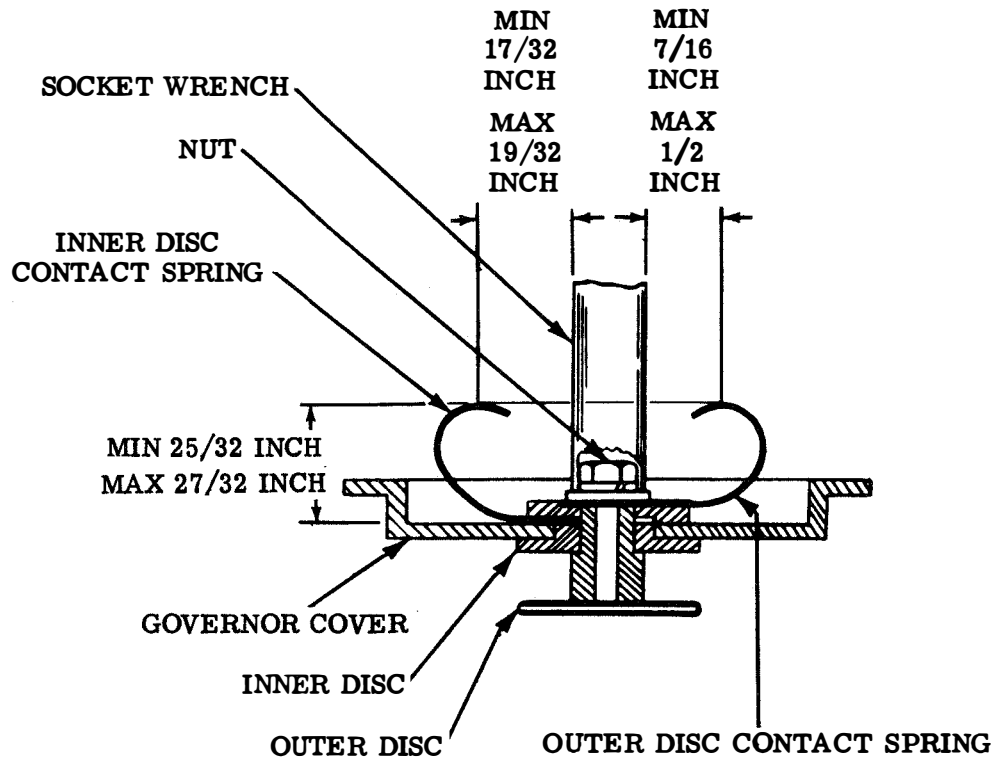

Figure 8 - Governor Cover Contact Spring Disc Assembly
To Adjust: Bend the springs. (See Figure 8.)
To Adjust: Bend the spring. Recheck (1). (See Figure 8.)
(3) Outer-disc Contact Spring: With the socket wrench in position as in (2), the distance from the outer surface of the wrench to a point where the tape gauge touches the curved surface of the outer-disc contact spring shall be minimum $7/16$ inch, maximum $1/2$ inch. To gauge, place the end of the TP95960 tape gauge against the outer surface of the wrench so that the edge of the $1/32$ -inch scale is resting against the curved surface of the outer-disc contact spring.
(4) Governor-brush-spring-plate Bracket: The inner surface of the bracket shall
brushes. Gauge by eye. When it is necessary to clean the discs, a KS-2423 cloth, wrapped around an orange stick and moistened with KS-19578, List 1 trichloroethane, shall be held on each disc while the motor is being rotated by hand and the brushes have been removed. If the discs are pitted or burned, a piece of 400A Aloxite wrapped around an orange stick shall be held against each disc while the motor is being rotated by hand. Badly grooved discs shall be replaced. (See Figure 8.)